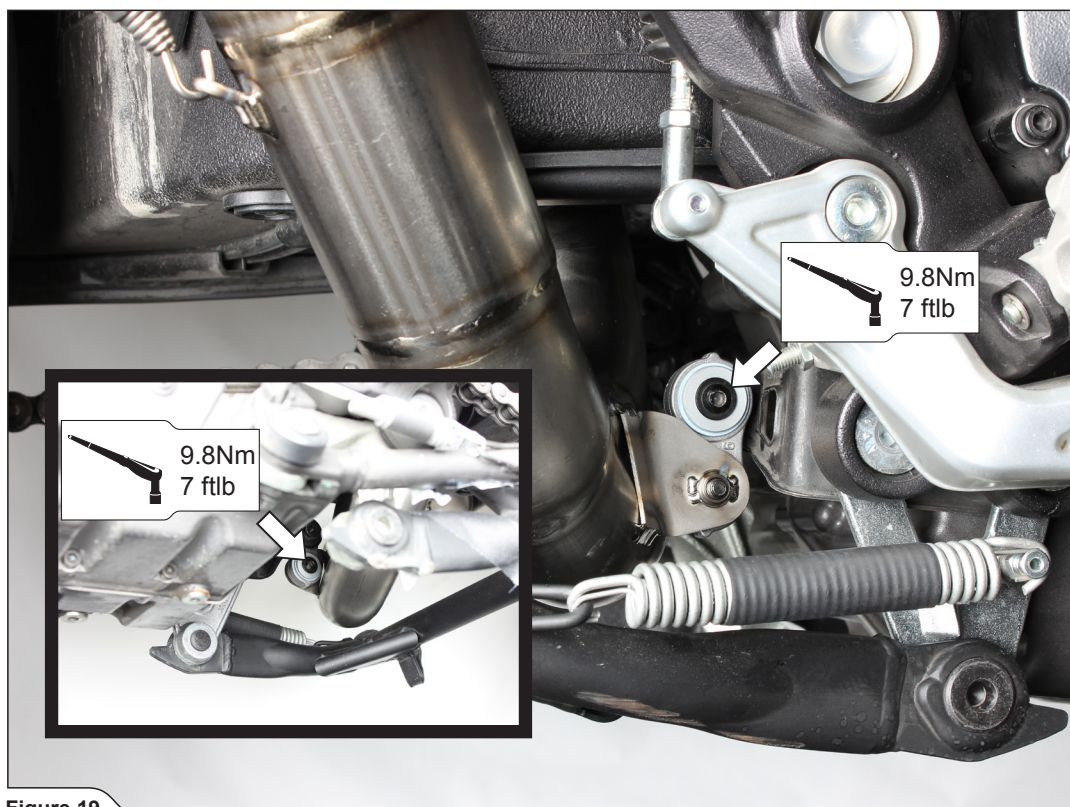

Figure 19
6. Tighten the collector to the frame, using stock bracket, bolts and washers (**Figure 19**).